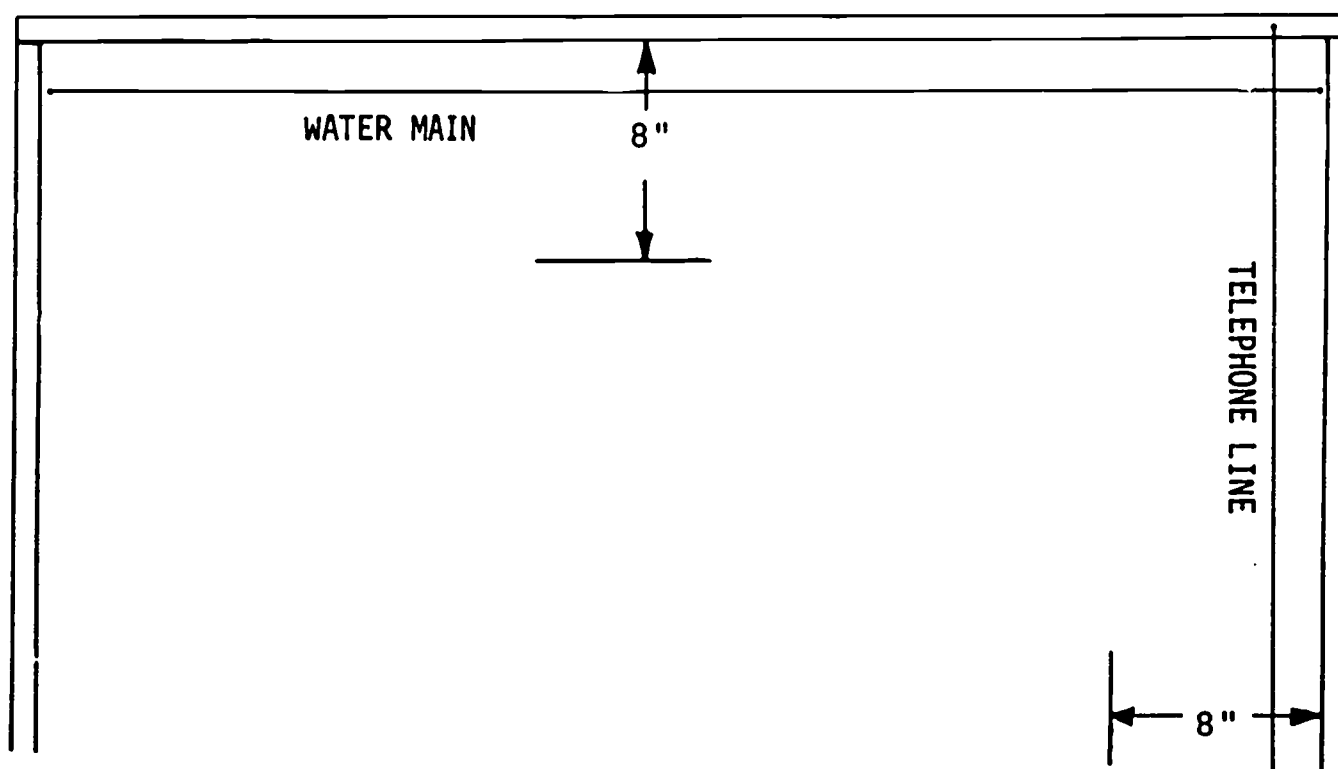

Fig. 30-8. Locating Street Lines
9. To lay out the location of the streets, measure in 8" from the two sides that have the water main and telephone lines as shown in Fig. 30-8.